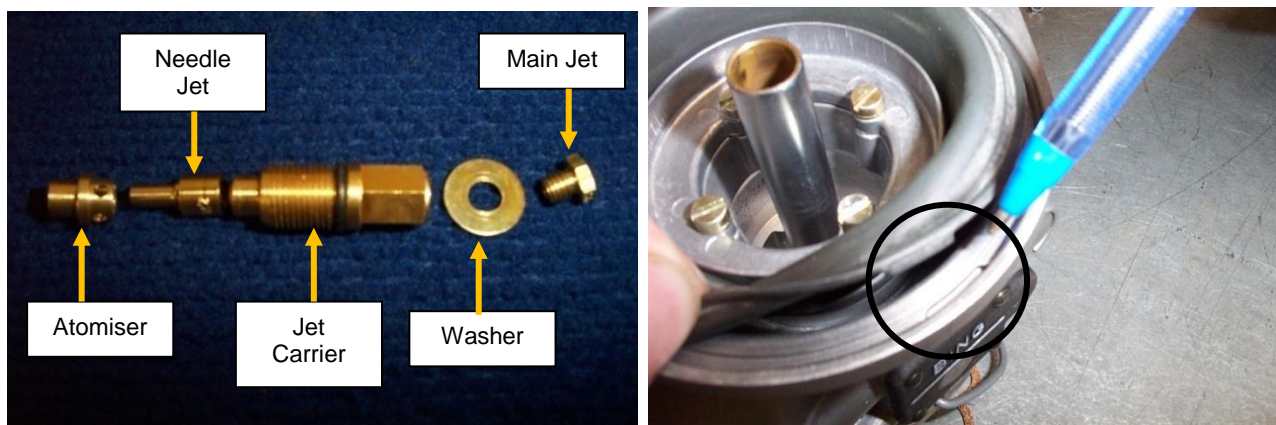

Figure 116 – Carburettor Jets & Diaphragm
- During re-assembly ensure that the atomiser, needle jet, jet carrier, washer and main jet are installed in the correct orientation and correct order as shown in Figure 116 (left). Also ensure that the tag on the diaphragm is aligned and fitted correctly to the socket in the carburettor body as shown in Figure 116 (right)